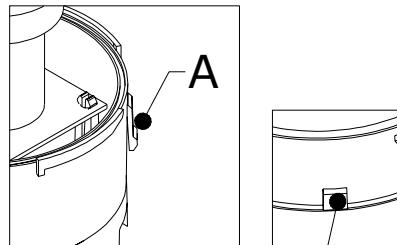

Fig. 10
**N.B.: A locking tab is provided on the cap base (Fig. 10 ref. A) - it must snap into the recess on the cap (Fig. 10 ref. B).**